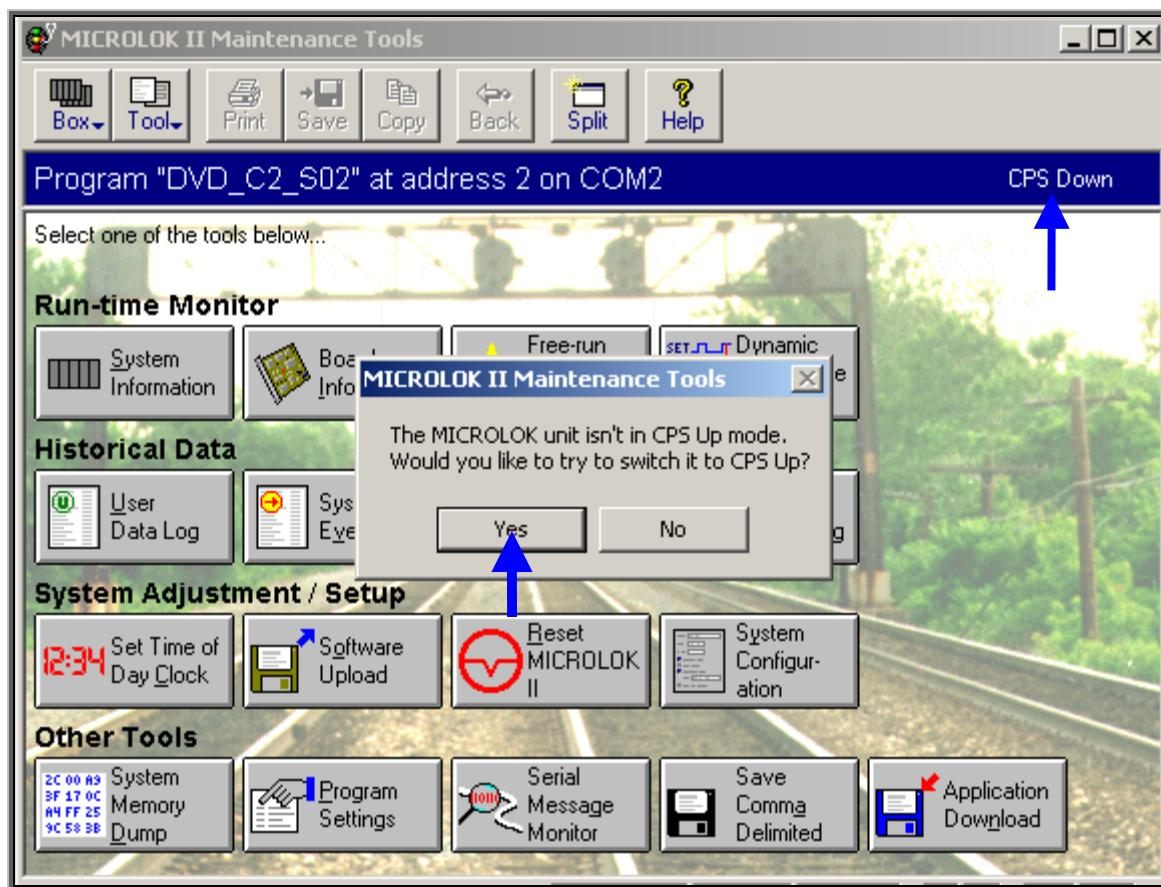

Figure-5.8.3
- ❖ Click on the “Yes” button to reset Microlok II. At this point, if the CPS is down the system displays the following window (Figure-5.8.3).